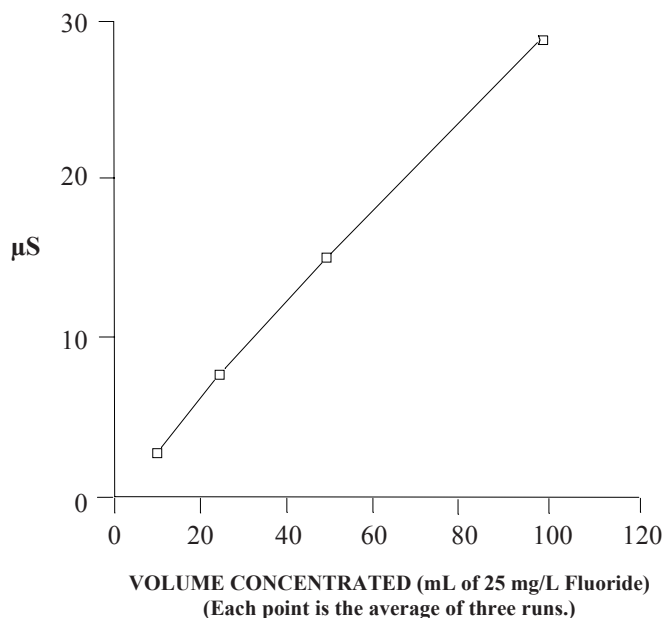

Figure 4
- D. A plot of response versus volume concentrated should be generated similar to Figure 4, "Response versus Volume Concentrated," for determination of the maximum amount of sample or standards that can be quantitatively loaded. The curve loses linearity above 100 mL volume concentrated. Therefore volume greater than 100 mL should not be used for quantification. For practical purposes the volume concentrated for this series of samples should be 75% of this value. This will ensure that there is a safety margin for samples in the series having slightly higher ionic concentrations. See Figure 4, "Response versus Volume Concentrated."